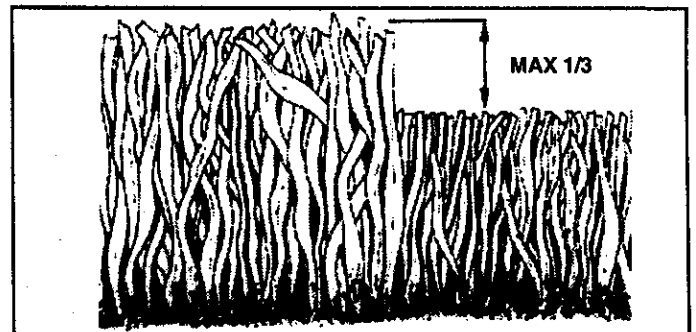

FIG. 17
- For best results, adjust the mower cutting height so that the mower cuts off only the top one-third of the grass blades (See Fig. 17). For extremely heavy mulching, reduce your width of cut on each pass and mow slowly.